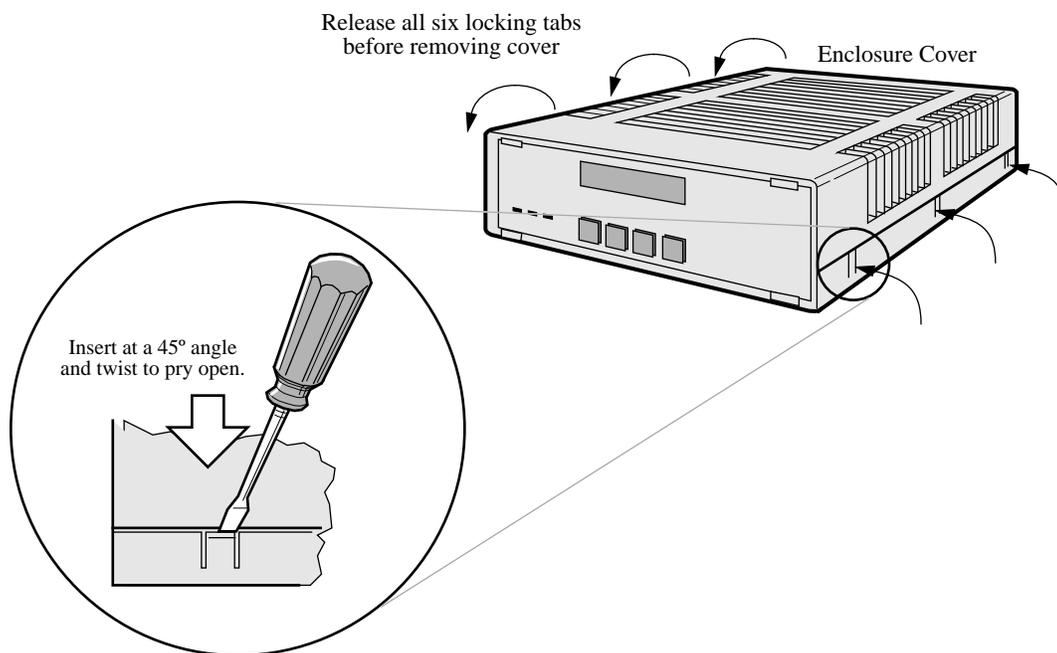

Figure 2-7. Removing the 3512 Enclosure Cover
- 5) Locate the six locking tabs along the sides of the enclosure (Figure 2-7). One side at a time, insert a flat screwdriver at a 45° angle into each tab slot. *Gently pry off the clips to release the cover. The screwdriver may damage the enclosure if you pry too hard.* Lift the cover off.